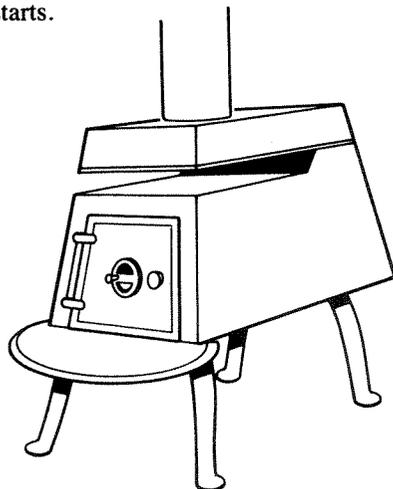

Fig. 64. Shaker modern box stove.
5. **Hinckley Foundry** (manufacturer), 13 Water St., New Market, NH 03875. These are near-replicas of models found in museums. The Shakers are reputed to have designed the first true airtight stoves over 150 years ago. See Fig. 64 and Table 7.